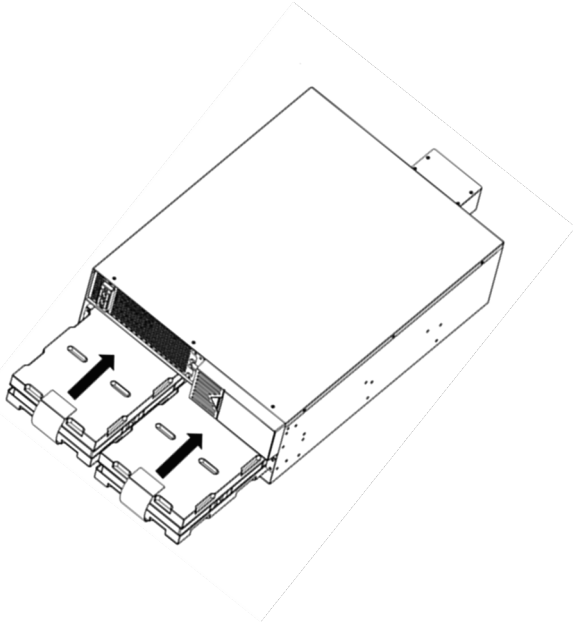

Figure 5
- 4) Slide the old battery module(s) out of the battery cage and replace it with the new battery module(s). (Figure 5)